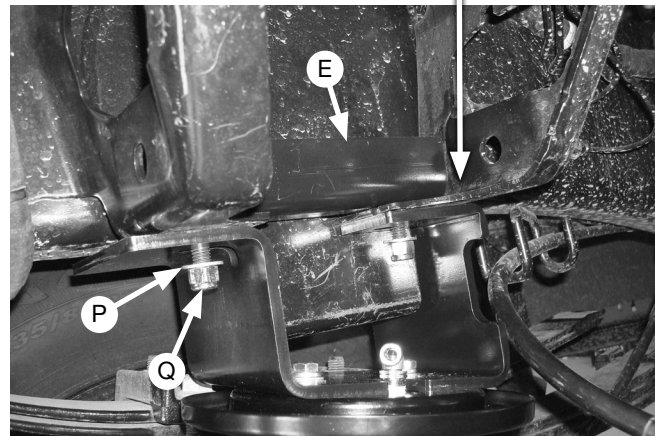

Fig. 12
5. Raise the axle up so that the upper brackets touch the frame. Set the brace assemblies created in step 4, with the flange on the brace facing inward, through the existing holes in the frame, then through the upper brackets (Fig. 12). Install the 3/8" flat washers (P) and lock nuts (Q) onto the bolts. Align the upper bracket by moving it in or out and torque the hardware to 31 lb.-ft (42Nm).